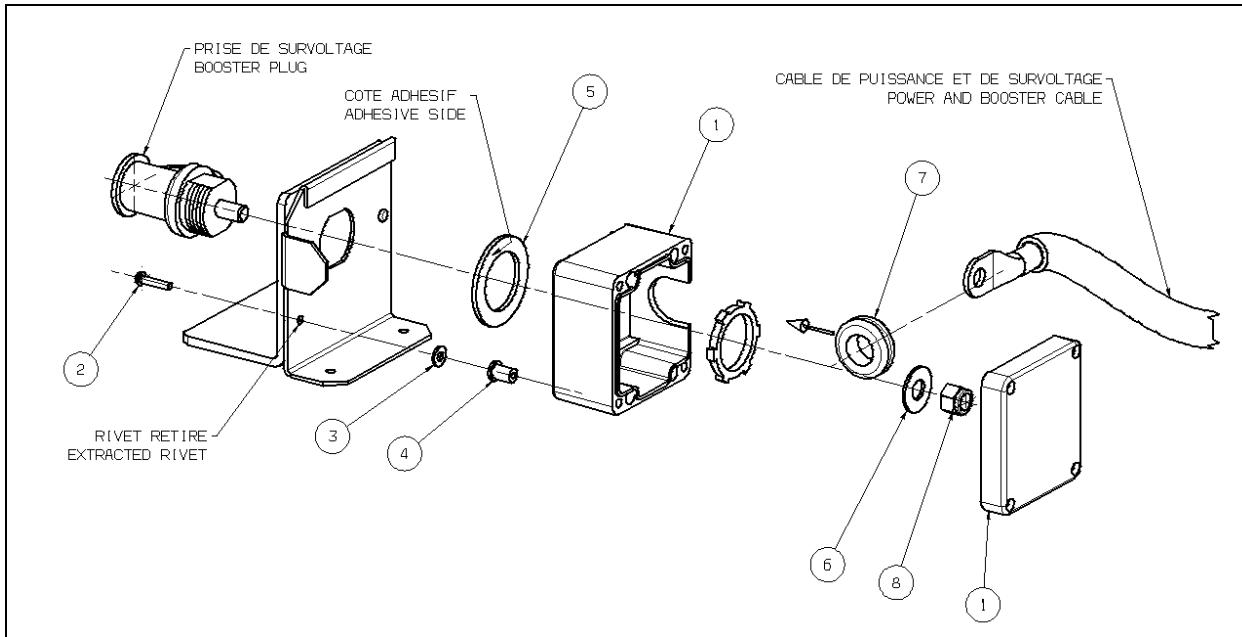

FIGURE 1
6. Remove rivet from booster block support (Refer to figure 1).
8. Insert positive terminal through support hole, slide foam sealing washer ⑤ (382444) over, adhesive side towards box, and then protective box ① (382441) making sure drip hole is at the bottom. Fasten previously removed fixing nut of booster block terminal (Refer to figure 1).
9. Also secure protective box ① to support using round head machine screw ② (500873), flat washer ③ (5001137) and well nut ④ (500678). Use previously removed rivet hole.
10. Install grommet ⑦ (504671) onto protective box side.
11. Pass cable ring terminal through grommet ⑦.